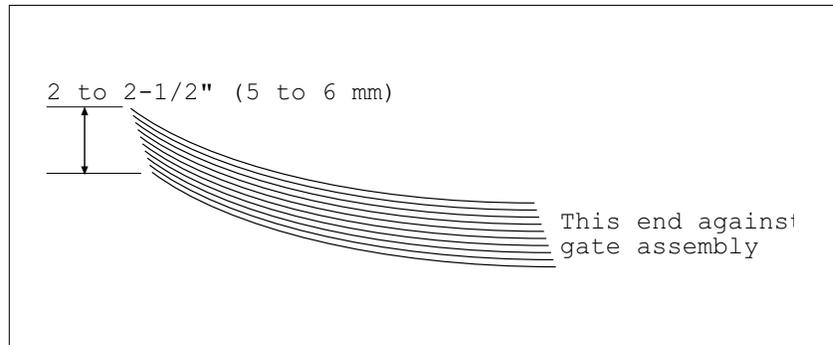

Figure 3-9. Preshingling a Small Stack of Material By Hand
1. Grasp a handful of product, approximately 2 to 2-1/2 in. (5 to 6 cm) thick, and preshingle the edges with your thumb (Figure 3-9).